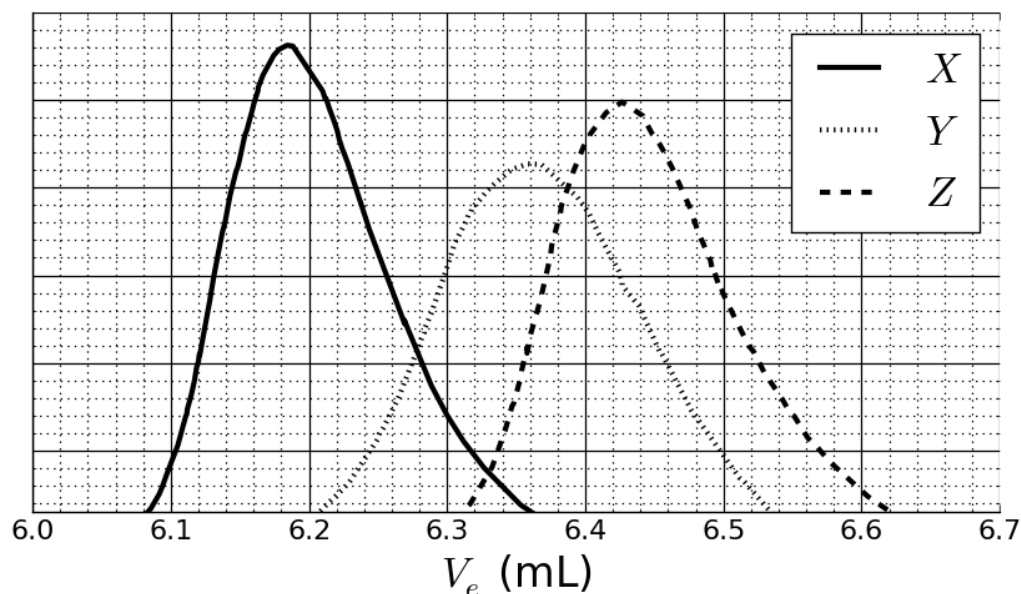

Fig. 2 – SEC chromatograms of **3a**, **3b** and **3c** as a function of the elution volume,  $V_e$ .
This reaction of **1** with **2** yielded the copolymers **3a** after 20 h, **3b** after 25 h and **3c** after 30 h of reaction at 40 °C. Results of size-exclusion chromatography (SEC) experiments are presented in Fig. 2.
6. **Match** the signals in Fig. 2 with the copolymers **3a**, **3b** and **3c**.
7. Based on the SEC curves in Fig. 2 and 3, **determine**  $V_e$  of the polymer that corresponds to curve X and use it to **estimate** the degree of polymerization  $m$  of its second block. Provide **details** of your calculation: you may use a calculator or plot a graph.